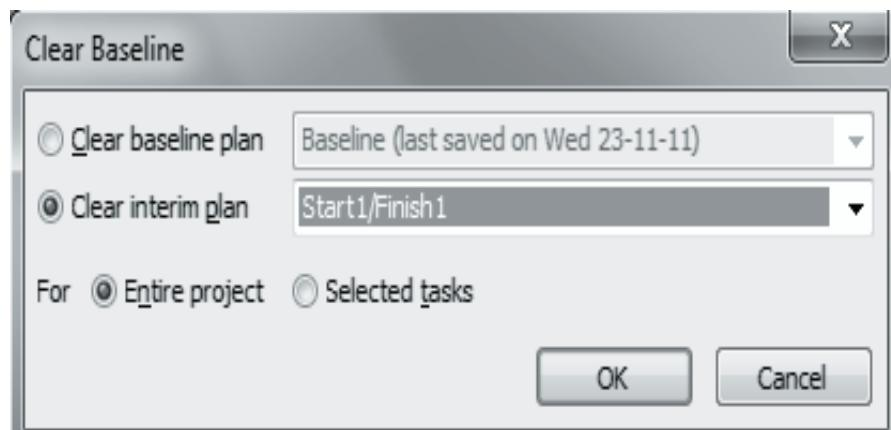

Figure 9.6: Clearing Interim Plans Using Clear Baseline Dialog Box
2. On **Project** tab of the **Ribbon**, click **Set Baseline** and select **Clear baseline** to display the **Clear Baseline** dialog box, as shown in figure 9.6.